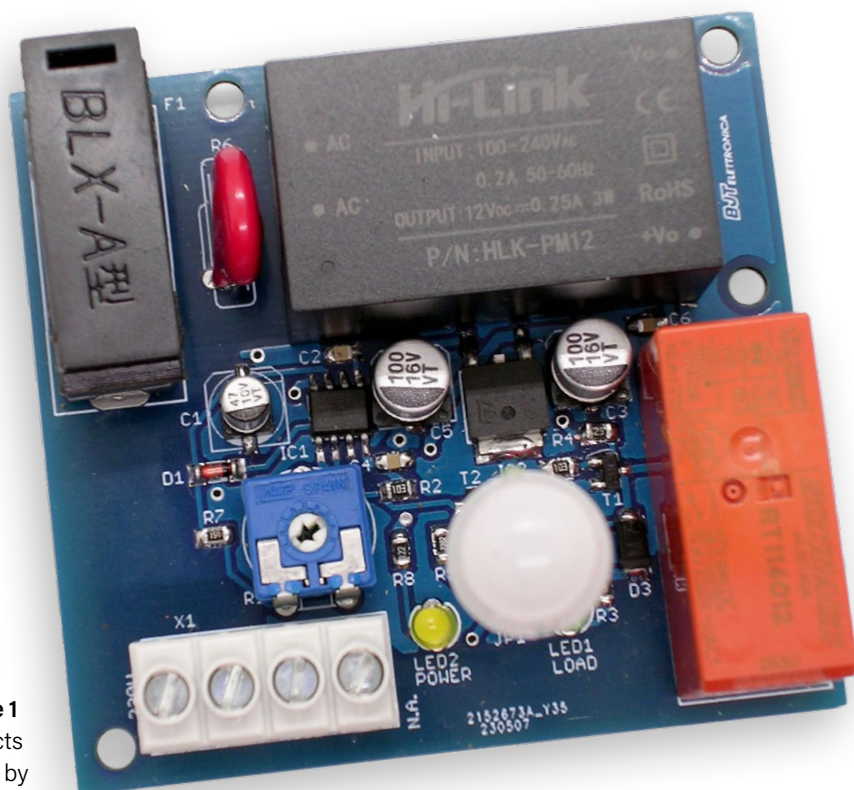

Figure 1: The finished prototype.
This passive infrared (PIR) switch project, shown in **Figure 1** as a finished prototype, uses a PIR sensor, which detects the non-visible infrared (IR) portion of the heat emitted by the human body. The sensor is mounted on a miniaturized HC-SR505 module, which includes the control electronics with a quiescent current of less than 50 μA . The sensing angle is 100°, and the maximum range is 5 m. The module has a digital output line with active (High) level of 3.3 V and Low level at 0 V.
Let us now turn to the construction of the board, which is simple. The PCB is of the double-sided type with metallized holes; its layouts are available as PDF files in the downloadable materials.[1] As you can see from the completed prototype shown in Figure 1, most of the circuit components are SMD type, with some through-hole mounted elements. To this extent, take a look at the **Component List** frame, where the PCB is shown by its silkscreen side.